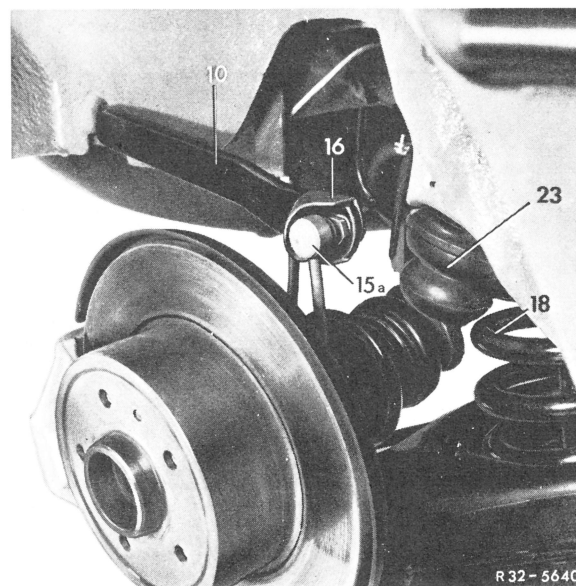

Fig. 2
3 Disconnect connecting rod (15) on right and left of torsion bar (Fig. 2).